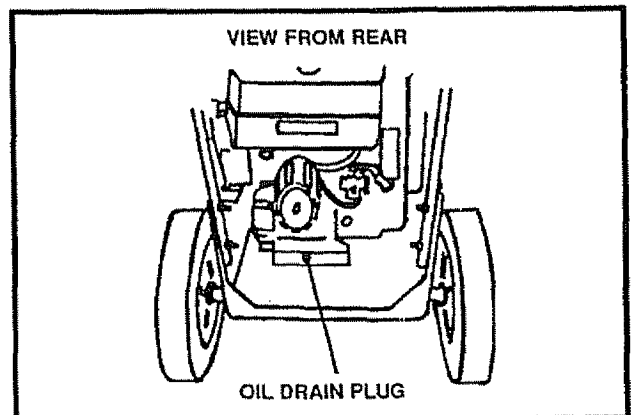

FIG. 11
- Remove the oil drain plug (See Fig. 11) and drain the oil into a flat pan. After draining all the oil, reinstall the oil drain securely.